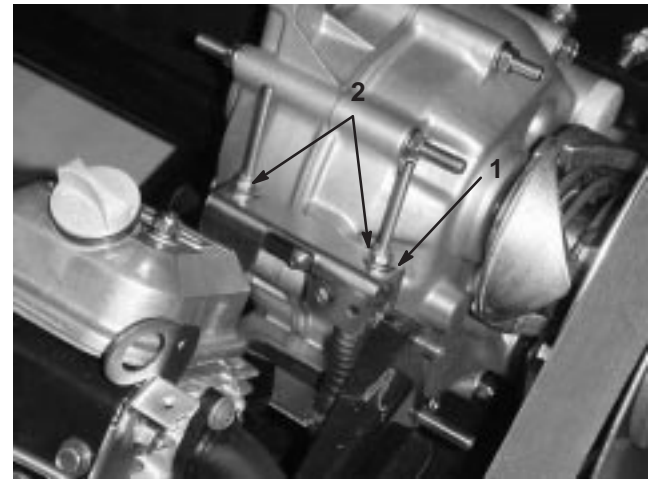

Figure 26
When performing routine maintenance and/or engine diagnostics, the transaxle must be shifted into neutral (Fig. 26). The vehicle has a neutral position on the shift lever, which controls the neutral in the transaxle. The following steps should be taken to make sure that the neutral shift lever operates the transaxle neutral correctly:
2. Set the neutral bracket on the transaxle to the neutral position (level), turn the drive clutch, and check to see if the vehicle rolls back and forth (Fig. 26).
3. Tighten one of the locknuts (Fig. 26) just enough to take the slack out of the shift cable.